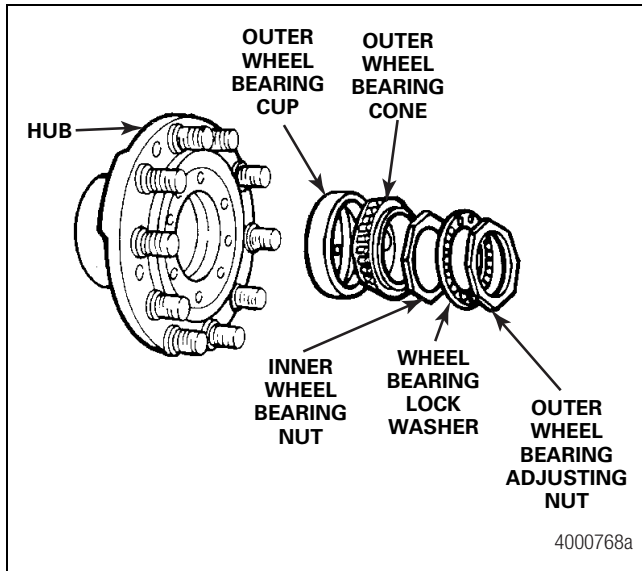

Figure 6.22
1. Use a torque wrench to tighten the adjusting nut to 100 lb-ft (136 N•m). Figure 6.22. **ⓘ**